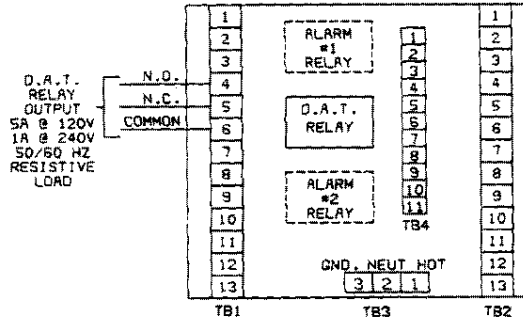

Fig. 2-9.1—D.A.T. relay output.
**Relay output.** Contacts are rated at 5 amperes, 120 volts or 1 ampere at 240 volts, 50/60 Hz, for a resistive load. See Fig. 2-9.1